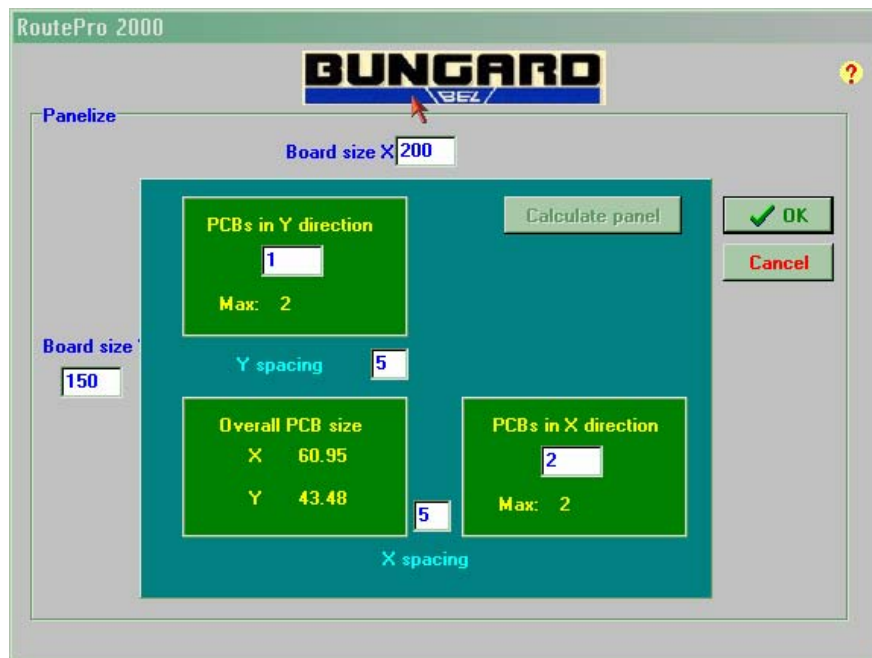

Figure 12 – Panelize Window
3. Enter these dimensions (in mm) into the “Board size X” and “Board size Y” fields in the panelize window. See figure 12